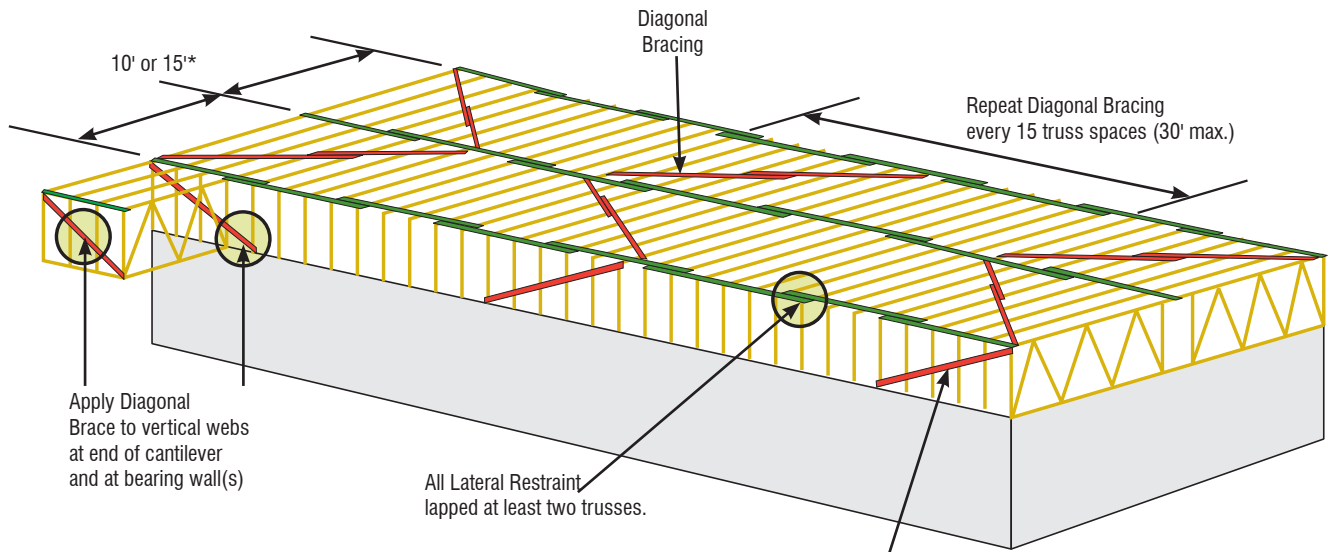
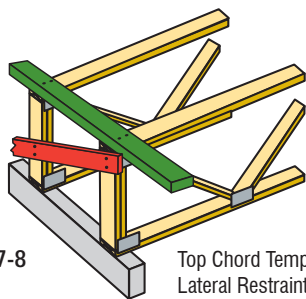

FIGURE B7-7
FIGURE B7-8
See NOTE and Figures B7-8, 9, 10 and 11. Repeat every 15 truss spaces (30' max.)
- ✓ End diagonals, with TCTLR or Ribbon (band) Board, Blocking Panels, or Rim Board (see Figures B7-8, 9, 10 and 11) are examples of framing components that provide stability to the PCT during installation. Install one of these types of components on both ends of the truss system and repeat every fifteen truss spaces (30' maximum), see Figure B7-7.